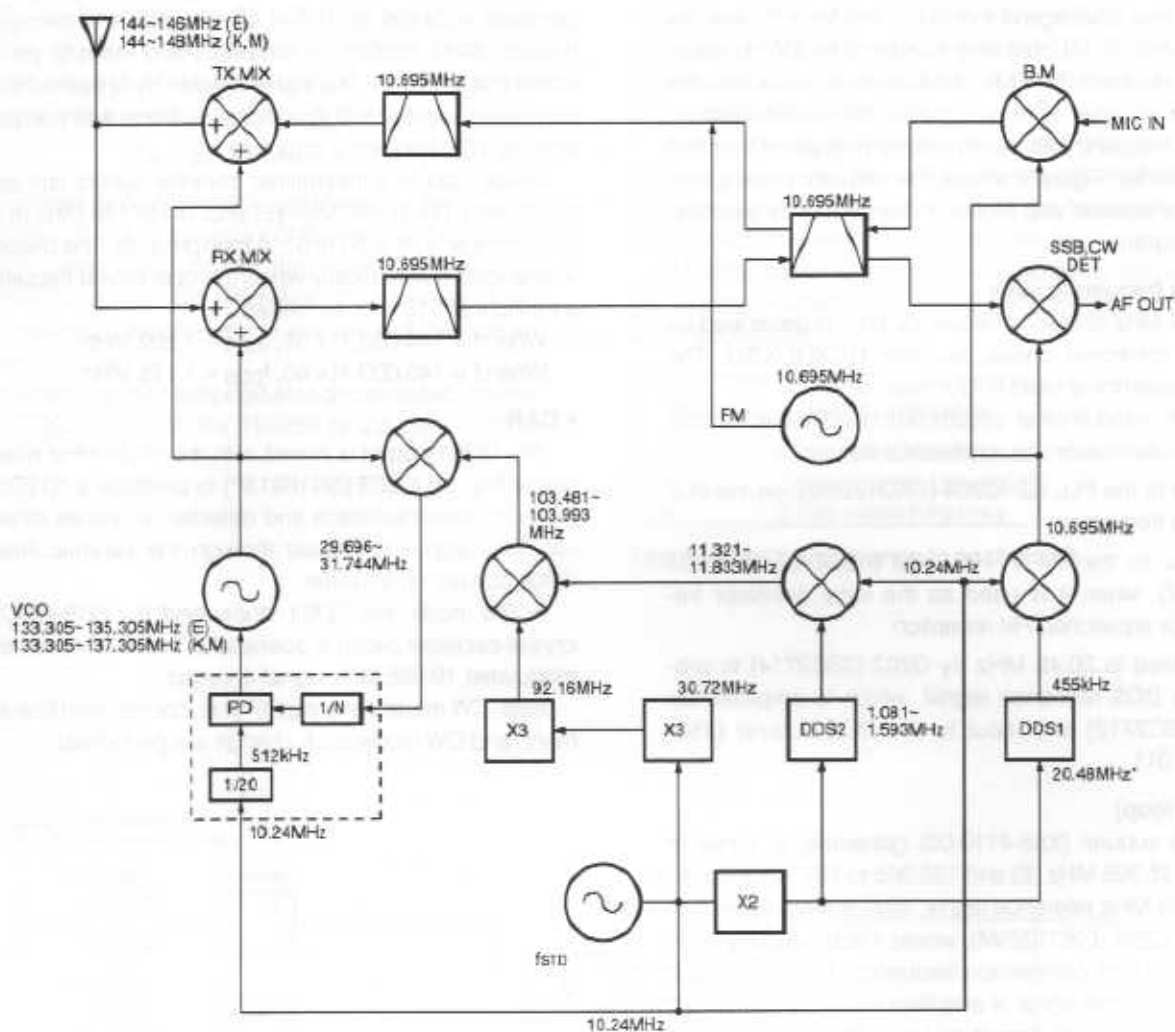
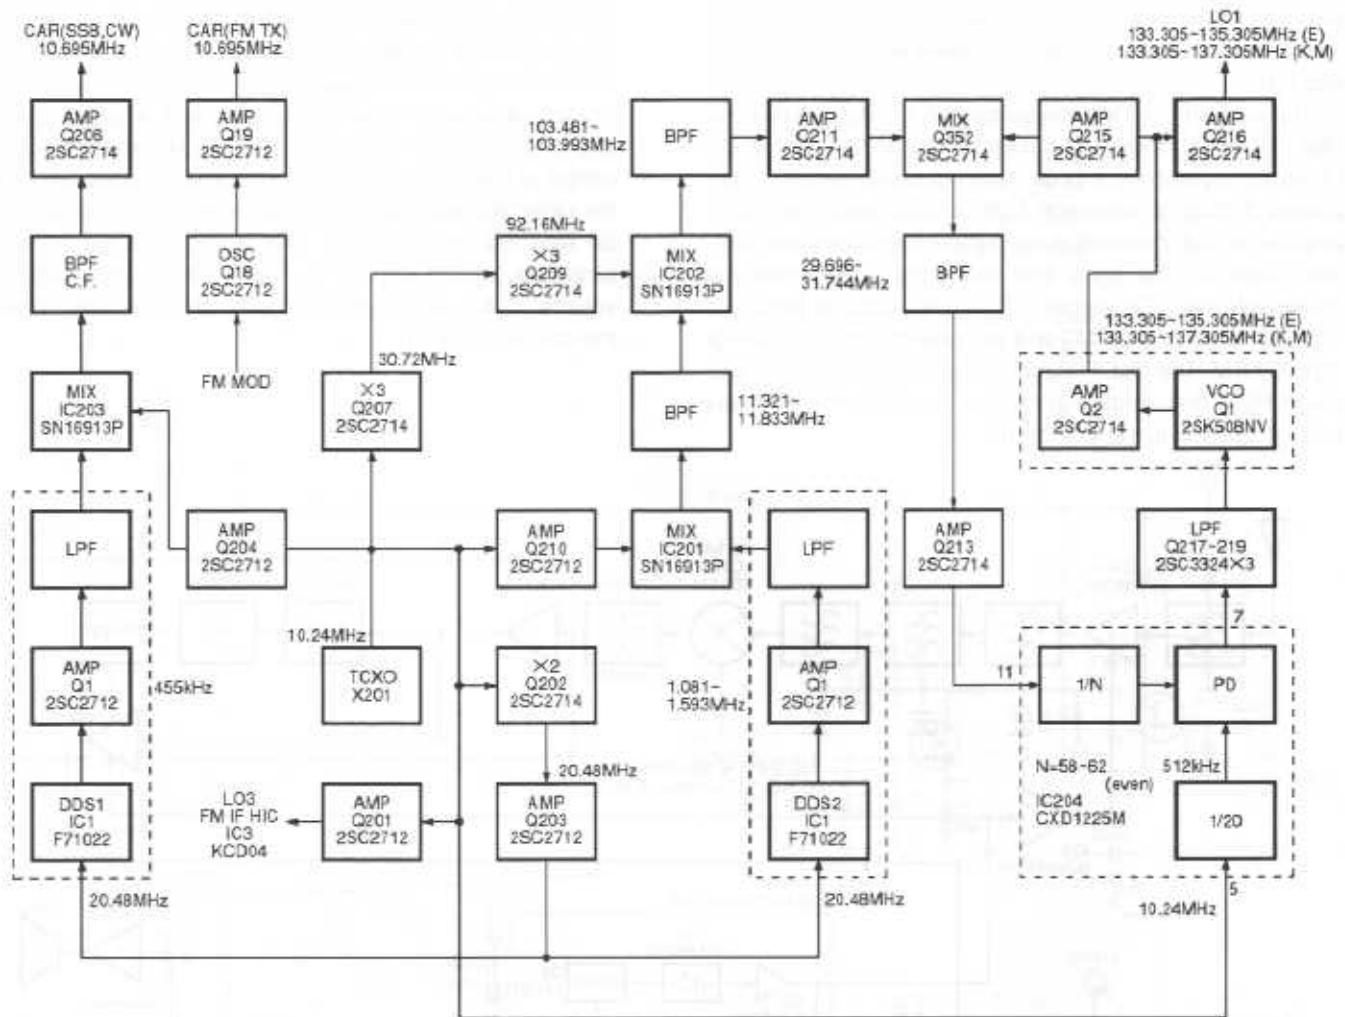

Fig. 2 Transceiver frequency configuration
Fig. 3 Frequency processing block diagram
Since all these frequencies are generated by the PLL as shown in Figure 2 (PLL frequency configuration), the receive frequency is determined only by the reference frequency, f_{STD} , and the PLL divide ratio. Therefore, the accuracy of the reference frequency determines the accuracy of the operating frequency.
PLL operation is based on a reference frequency of 10.24 MHz, and allows coverage of the 144 to 146 MHz (E) and the 144 to 148 MHz (K, M) operating band in 5 to 200 Hz steps (50 to 2000 Hz steps for FM), depending on how fast the through-type encoder is turned. When the encoder stops, the selected frequency will be an integral multiple of 5 Hz (50 Hz for FM mode). Figure 2 shows the frequency configuration of the transceiver, and Figure 3, the frequency processing block diagram.